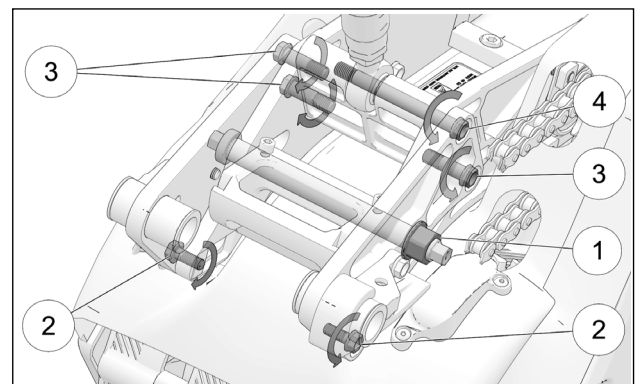

Figure 35
- Loosen eccentric bolt nut (1) a little using the special socket provided in your YETI SnowMX parts kit. Figure 35.
- Loosen slightly, the two M8 bolts (2), and the four M10 bolts (3-4) on each side of the Bike Mount so that the Bike Mount assembly can slide. Figure 35.